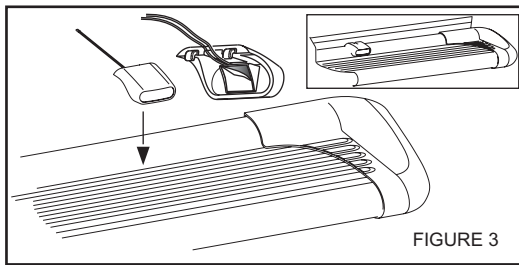
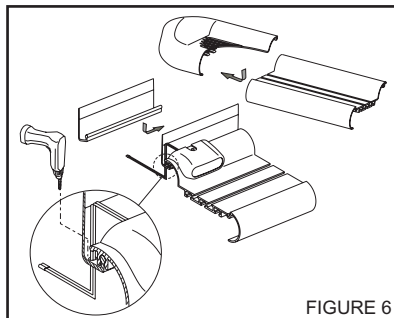

FIGURE 3
FIGURE 6
STEP 6. For Sure-Grip Running Boards, slide closure strip as shown. Set lights (if purchased) in appropriate location. Attach to Sure-Grip Running Board as shown. **SEE FIGURE 3.** Drill hole through plastic strip and run wires as shown. **SEE FIGURE 6.**